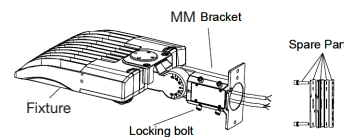

Fig. 16
1. Remove the spare parts from the MM bracket (Fig. 16).